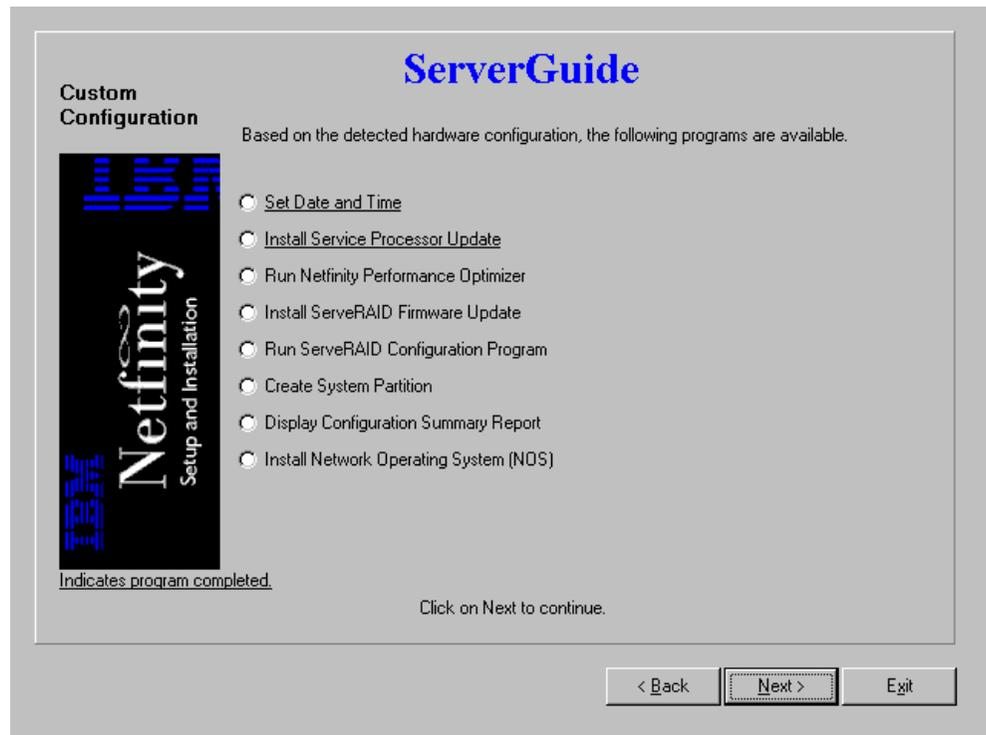

Figure 35. Available programs
13. A window similar to Figure 35 appears showing you the recommended activities to perform prior to installing Windows 2000. In our example, we were installing on a Netfinity 5000 with a ServeRAID adapter installed.